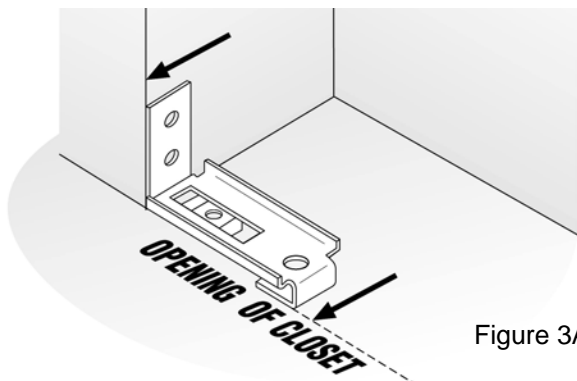

Figure 3A
A. Locate the Pivot "L" Bracket (#20). Place Pivot "L" Bracket (#20) so that the front edge of the Pivot "L" Bracket (#20) is flush to the front of the closet opening (See Figure 3A).